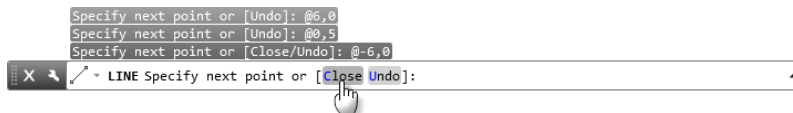

FIGURE 2.15 Specifying a command option by clicking it within the command-line interface
8. Click Close in the command-line interface to execute the Close option, as shown in Figure 2.15.